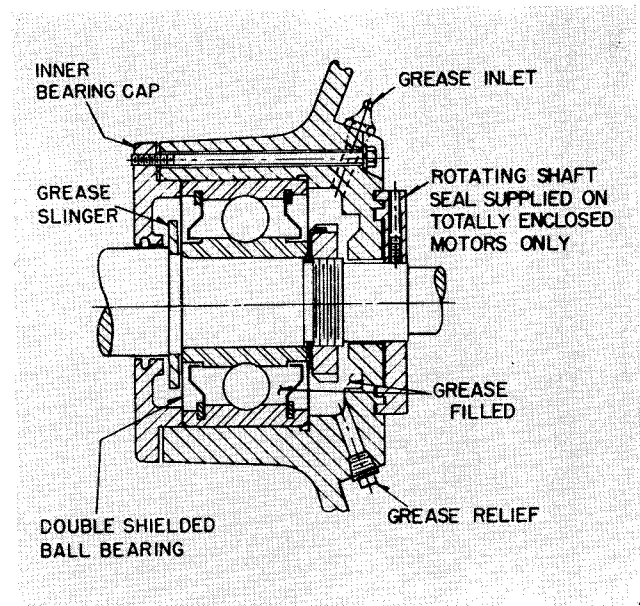

Fig. 3. Sectional View
5.3.1 BEARINGS. (See Figure 3). When shipped from the factory, grease lubricated ball bearing motors have sufficient quantity of the proper grade grease to last for a long period. This period will vary depending on the application. When regreasing stop motor, remove drain plug, add grease (with hand operated gun only) until grease appears at drain hole. Run motor for approximately ten minutes before replacing drain plug. It is recommended for easy applications no lubricant be added, for average applications motor be lubricated every three to six years, and for severe applications, greasing be done on the basis of experience.